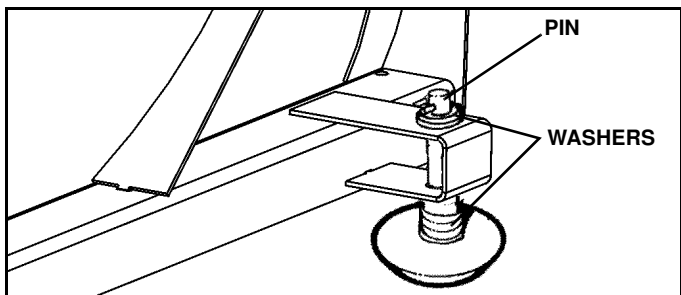

Figure 2-7
5. Adjust shoe assemblies by removing shoe mounting lynch pin and adding or subtracting washers on the top or bottom of the shoe-mounting bracket. (See Figure 2-7).